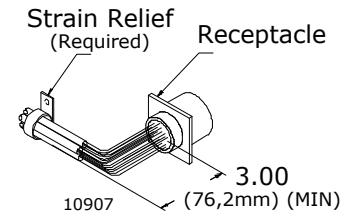

Figure 8 – Strain Relief
- Strain relief is required for inside cable to ensure seal integrity. (See Figure 8)
- F) From the inside, secure the cable for strain relief. Strain relief is to be supplied by the installer. Refer to Figure 8.
- I) From the inside, secure the cable for strain relief. Strain relief is to be supplied by the installer. Refer to Figure 8.